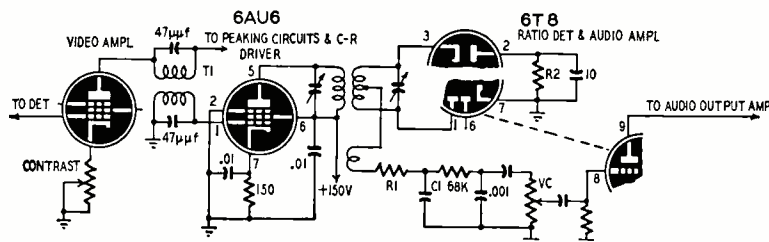
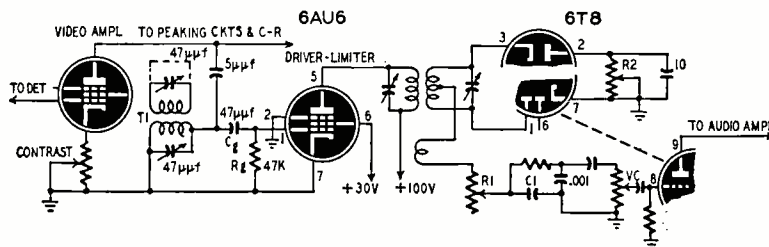

Fig. 5—Typical intercarrier sound circuit; the 6AU6 acts as straight amplifier.
Fig. 6—Modified circuit of Fig. 5 to improve rejection of unwanted AM signals.
Fig. 6 is a modified version of Fig. 5, to improve rejection of unwanted AM components. Changes are:
2. Replace coupling transformer (T1) with capacitive coupling from video amplifier plate to secondary winding as in Fig. 6. (Short-circuit primary). This
Fig. 5 shows a typical 4.5-mc intercarrier sound circuit including the sound takeoff point and audio amplifier. The function of the sound circuit is to amplify the frequency-modulated 4.5-mc signal, reject any amplitude variations, and detect or convert the FM to audio. The most difficult problem is to effectively iron out AM so that no voice or sync buzz is present in the audio out-
3. Adjustment of the ratio detector can be done if an FM-AM signal generator and oscilloscope are available. Follow manufacturer's alignment instructions. Variation in values of R_1 , R_2 and C_1 in Fig. 5 will affect the ratio detector's ability to reject AM. For example, reducing the value of R_2 will often materially improve AM rejection of the detector but may result in decreased audio output. When R_1 or C_1 is varied a sharply defined minimum in output due to AM will be found. If a potentiometer whose total resistance is about 500 ohms is substituted for R_1 , this null point will be found and may result in improvement in AM rejection.
In the absence of adequate equipment, it is not recommended that adjustments be made on the ratio detector. However, a considerable improvement in reduction of sync buzz can be expected by making the circuit changes shown in Fig. 6, and by correct receiver alignment.